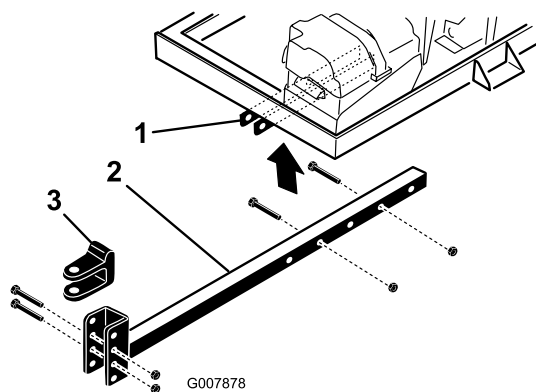

Figure 7
- Insert the hitch tube into the frame brackets (Figure 7). Secure the tube to the frame with 2 bolts (3/8 x 3 inches) and flange nuts (3/8 inch).
- Remove the bolts and locknuts securing hitch clevis (Figure 7) to hitch tube.
- Remove the bolts and nuts securing the hitch tube to frame brackets (Figure 7).